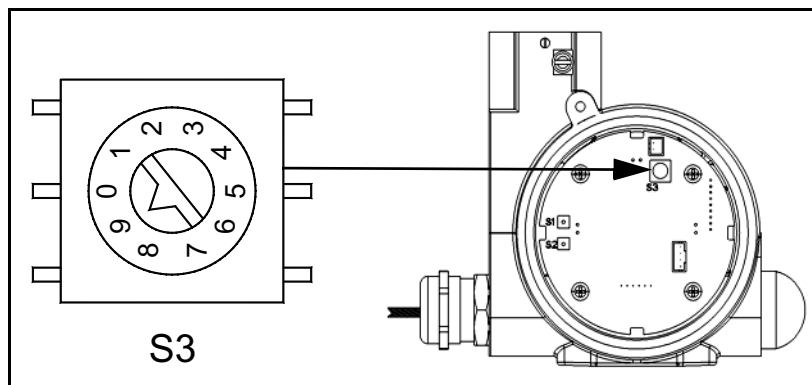

Figure 13: Setting Switch S3
Two buttons (**S1** and **S2**) and one rotary switch (**S3**) are located on the circuit board. Button **S1** is used to calibrate the 11.3% RH value with a lithium chloride salt solution, while button **S2** is used to calibrate the 75.4% RH value with a sodium chloride salt solution. Switch **S3** is set to position 9 for calibration mode (see *Figure 13* below).
3. If the meter reading is stable at 5.80 mA (or 11.3% on a display), press **SI** for at least one second. This assigns the 11.3% RH value. If only the low RH calibration will be performed, return *Switch S3* to position 0 (see *Figure 13 on page 16*). Otherwise, continue to the next section to calibrate the high RH reading.
3. If the meter reading is stable at 16 mA (or 75.4% on a display), press **S2** for at least one second. This assigns the 75.4% RH value. Return *Switch S3* to position 0 (see *Figure 13 on page 16*).